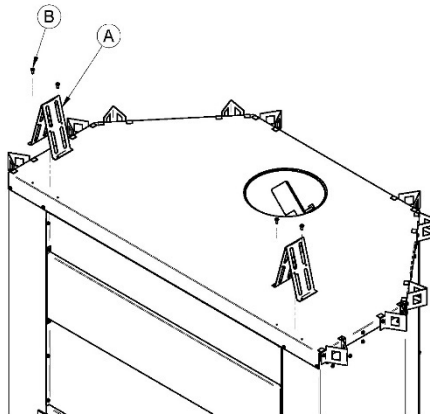

Figure 5
2. Align the holes of the spacers (A) with the pre-drilled holes on top of the fireplace and secure them with the 4 screws (B) as shown in **Figure 5**: